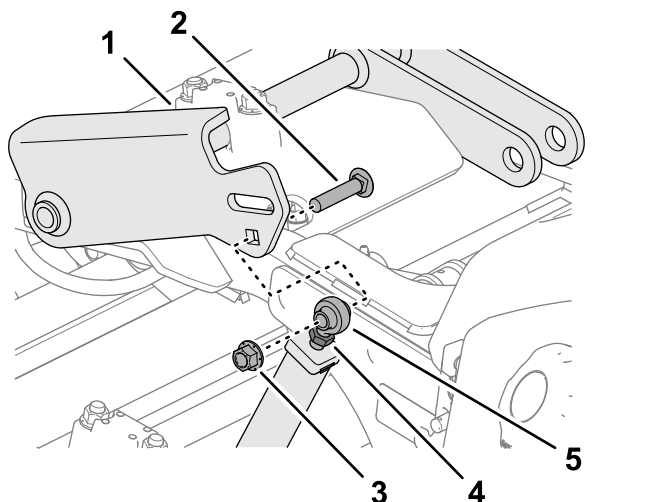

Figure 52
3. Loosen the rod end jam nut that secures the rod end to the lift link (Figure 52).